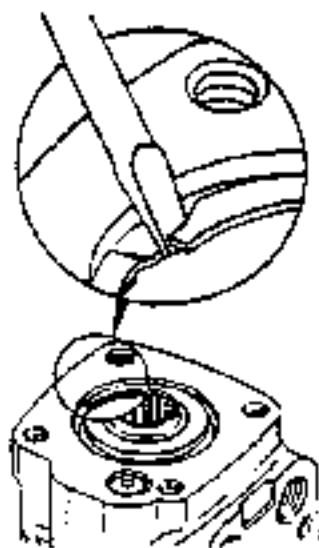

Figure 5
11. Remove housing from vise. Place housing on a clean soft cloth to protect surface finish. Use a thin bladed screwdriver to pry retaining ring from housing, as shown in Fig. 5.